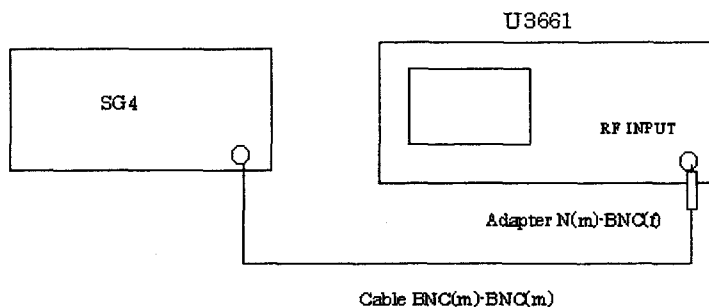

Figure 3-19 Setup of a Sweep Time Accuracy Test
1. Connect equipment as shown in Figure 3-19.